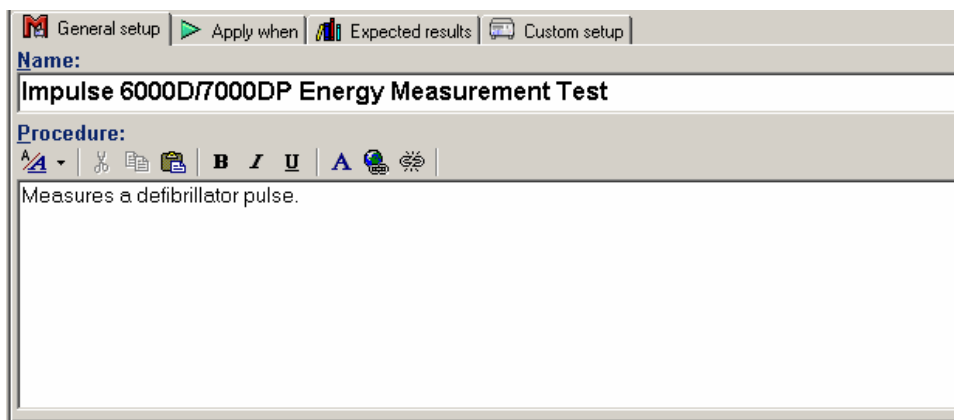

Figure 4-2. User-Definable Parts of the General Setup Tab
2. Click the **General setup** tab. A screen opens, allowing entry of a name for the test. See Figure 4-2. In the space below the name, enter the procedures and instructions to be followed when conducting the test.